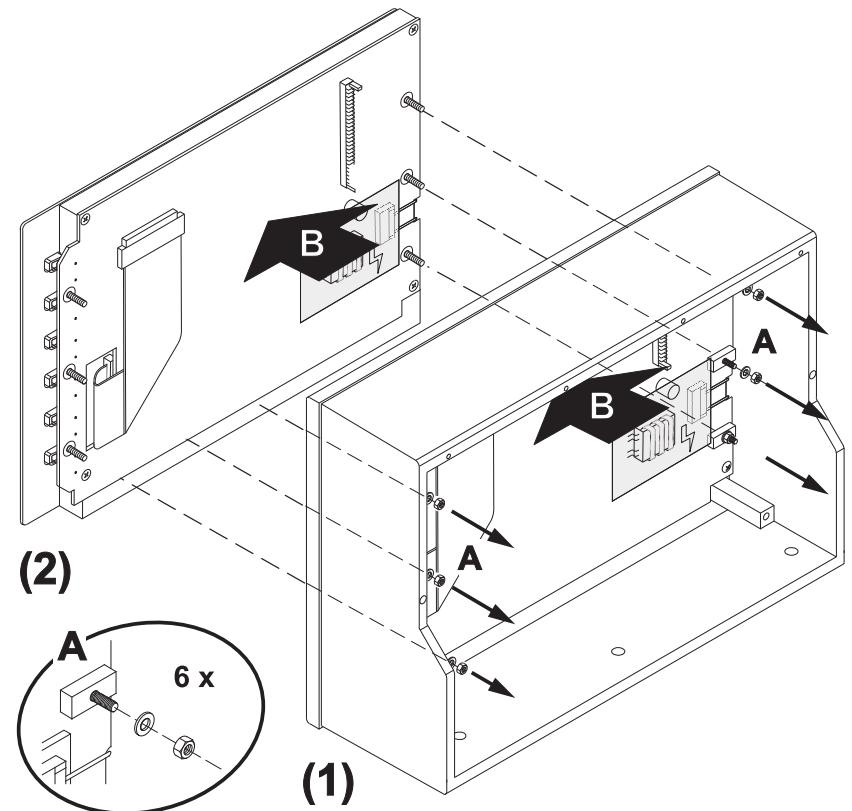

Fig. E 7-6: Removing the mounting unit with the display
5. Loose the six nuts and washers (A) of the display pcb. With one hand inside and the other hand outside carefully push the display assy (B) including the scale (which thereby is loosened) from the inner side to the **front side** out of the frame. (Fig. E 7-6) Please send the unit back to RTW.